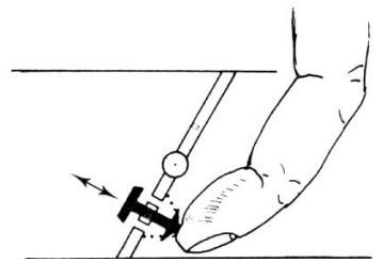

FIG. 68
12. Check that both poppet valves do not stick open and will open and close easily. This can only be done by pressing open with your finger and is by no means a guarantee that they will function correctly with the engine running, Fig. 68.